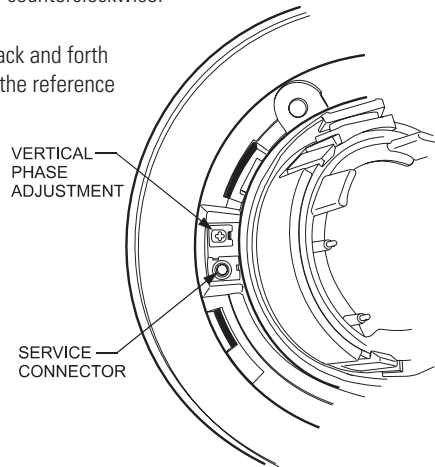

Figure 12. Vertical Phase Adjustment
2. Select a camera and synchronize it to the reference camera by turning the phase adjustment control (refer to Figure 12) clockwise and/or counterclockwise.